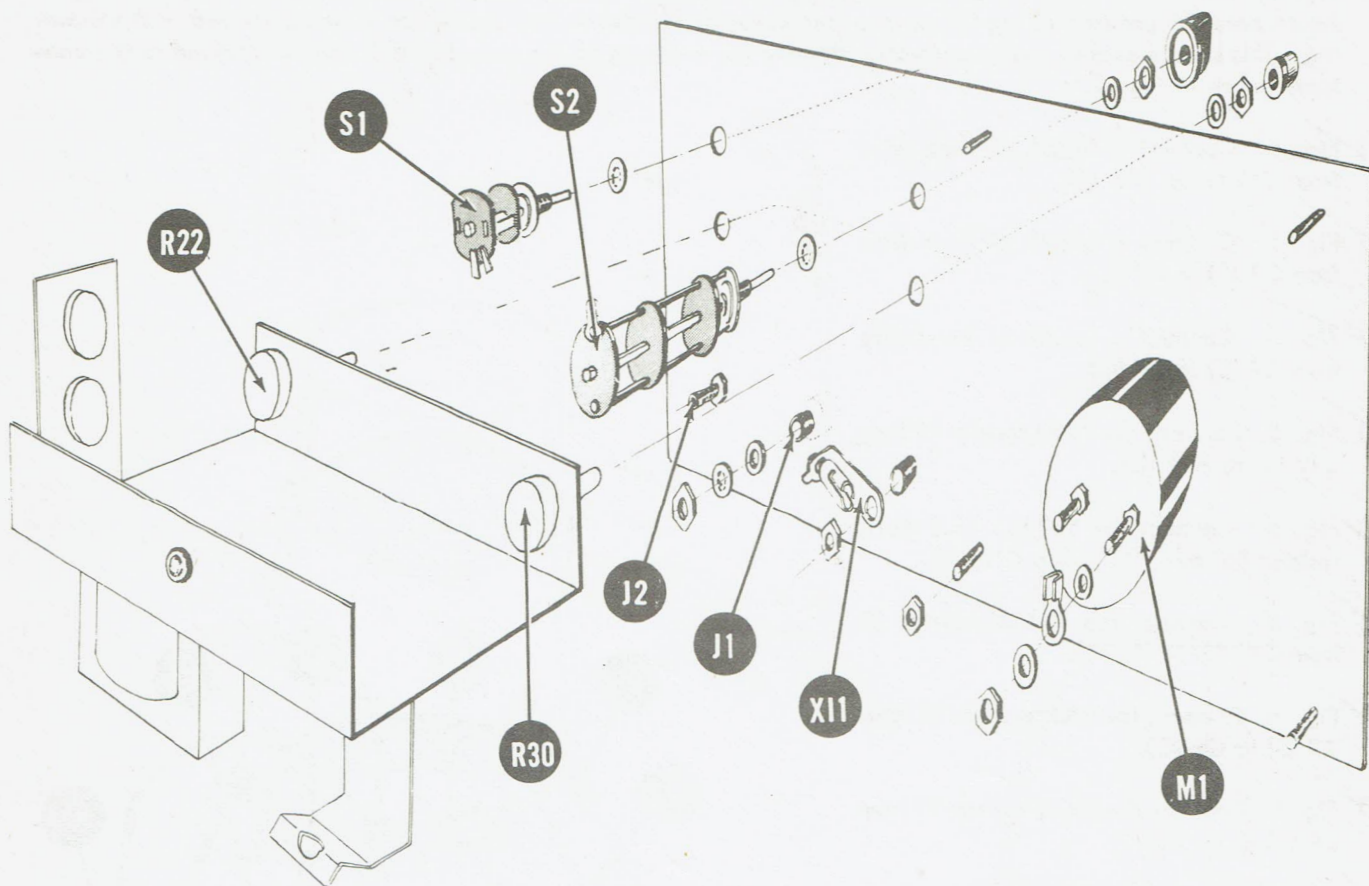

Fig. 6
- () Fig. 6. Mount the male co-axial connector J1 on the panel. A little pressure is required to imbed the knurled edge in the panel hole. Use a 3/8" flat fibre washer, a 3/8" lockwasher and a 3/8" hex nut.
- () Fig. 6. Mount the banana jack J2 with a 1/4" lockwasher and a 1/4"-28 hex nut.
- () Fig. 6. Mount the pilot lamp assembly XII on the panel.
- () Fig. 6. Mount the meter movement M1 on the panel with the hardware supplied in the box it is packed in.
- () Fig. 6. Mount the remaining hardware found in the box on the meter terminals.
- () Fig. 6. Remove the 3/8" hex nuts and 3/8" flat washers from R22 and R30. Fasten the panel to the chassis using R22 and R30 and the hardware previously removed.
- () Fig. 6. Mount the function switch S1 with one 3/8" hex nut, one 3/8" lockwasher, and one 3/8" flat washer. Switch is in correct position when the two lugs on the back side of the rear wafer are facing toward the bottom of the panel.